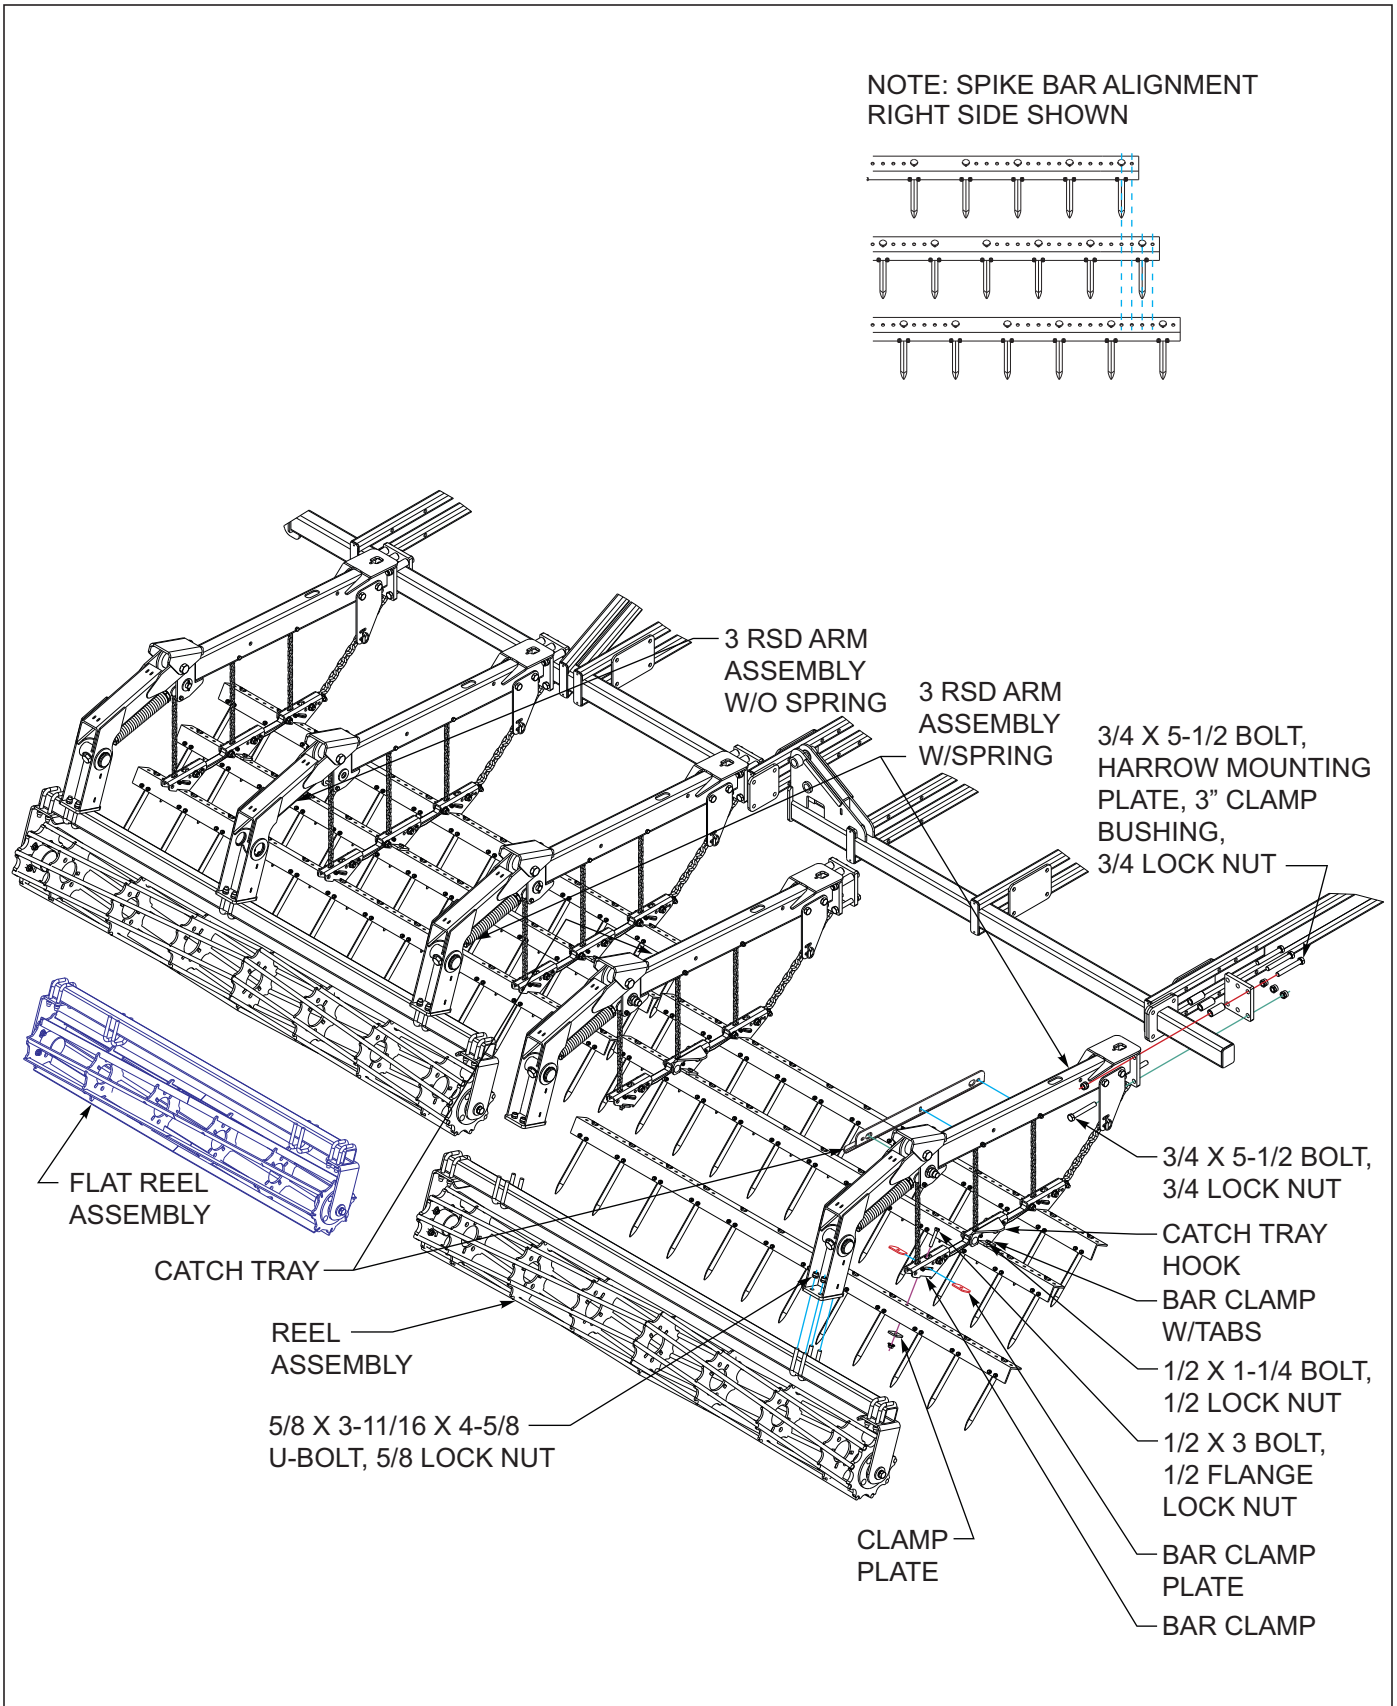

Figure 3-35: 3 Row Spike Harrow and Reel Installation
1. Attach the 3 RSD w/spring and 3 RSD w/o spring (**Models 9650FH-38’-42’ only**) arm assemblies to the rear tube of the center and wing frames using harrow mounting plates, 3/4-10x5-1/2 hex screws, clamp bushings and 3/4-10 lock hex nut **See Figure 3-35**.
*The harrow arms with the catch tray hooks are used on the outer wings with the catch tray hooks toward the outside of the machine and the catch trays toward the center of the machine. See **Figures 2-43 - 2-54** for 3 Row Spike and Reel Harrow or **See Figures 2-55 - 2-66** 3RSD & flat reel and **See Figures 3-35** for proper placement.*
3. Refer to Note: spike bar alignment **See Figures 3-35** for proper alignment of spike bar assemblies. Be sure they are aligned properly on both right and left side of each section.